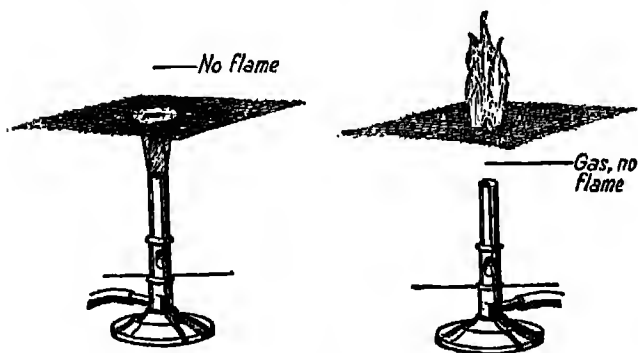

FIG. 241.
**Expt. 290.** Gradually lower a piece of wire gauze on to the flame of a bunsen burner (Fig. 241). The flame stays below the gauze. Hold another cold gauze about 2 inches above an unlighted bunsen